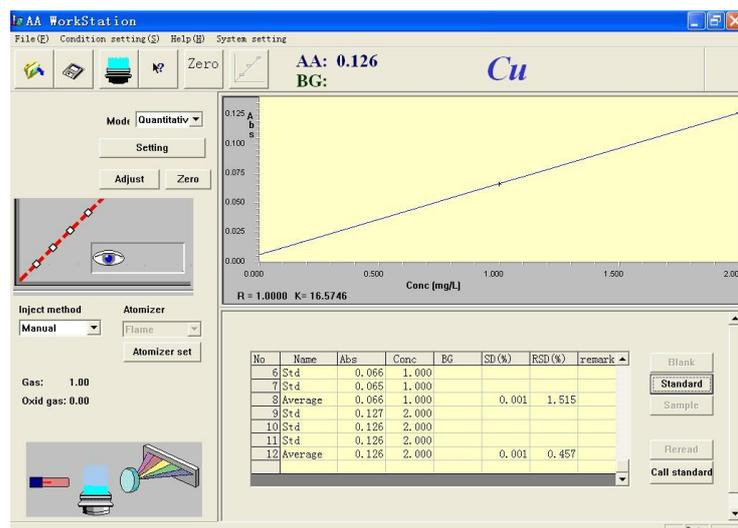

Figure 5-28
- Complete testing of two standard samples according the methods described above. After the standard sample testing is complete, the screen will be shown as that in Figure 5-28. After the standard sample testing is complete, the concentration of the unknown sample has also been obtained after calculation.